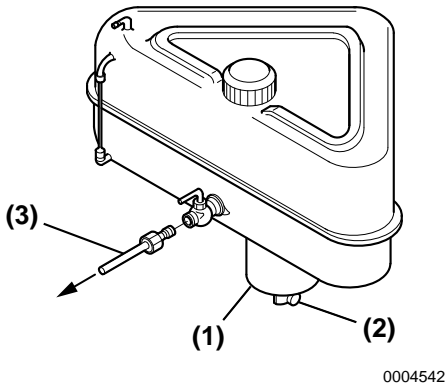

Figure 4
2. Put a container under the drain cock **(Figure 4, (2))** to catch fuel.